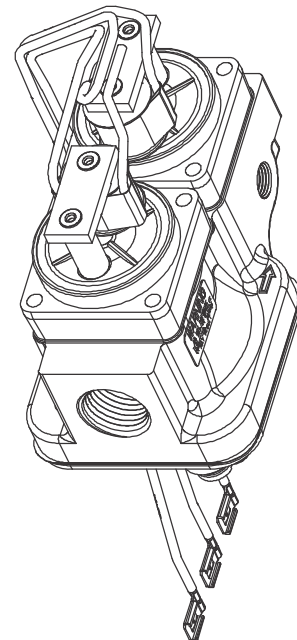

Figure 7:
6. With the mounting plate (Item 7) removed from the valve body (Item 5) the unit should look like Figure 7.